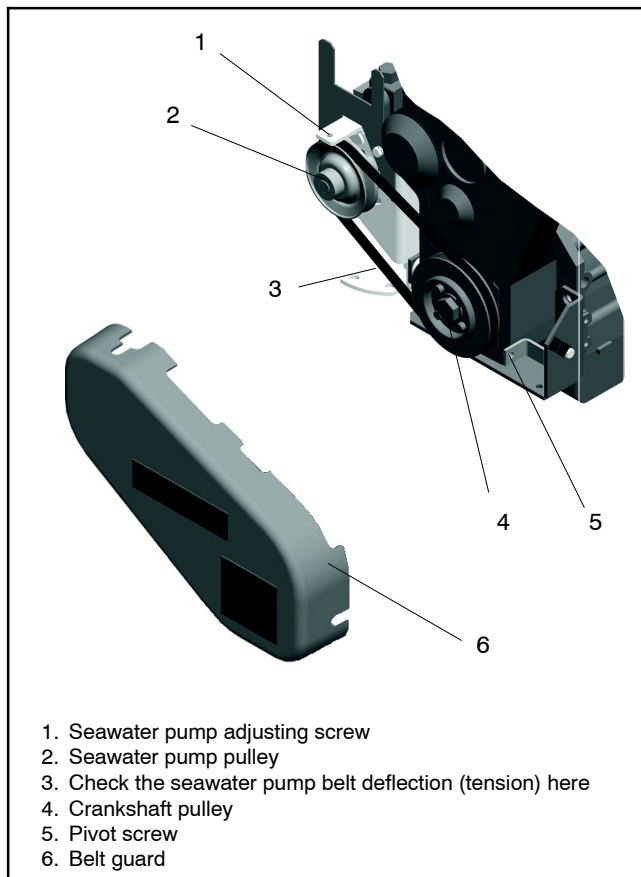

Figure 3-13 Belt Tension
1. Remove the belt guard. See Figure 3-13.